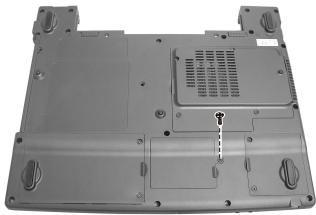

Figure 2-15 Remove one screw
2. Remove one screw fastening modem card's compartment cover. (Figure 2-15)